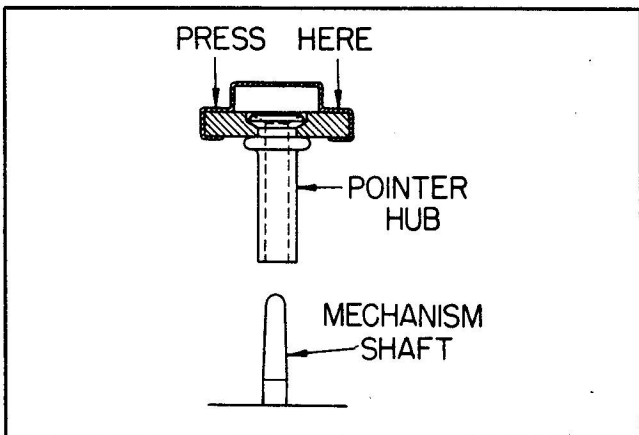

Figure 2-4. Attaching Pointer
**2-65. ASSEMBLY OF POINTER TO INDICATOR.** Fit pointer over shaft of mechanism and press down carefully on both sides of pointer blade. (See figure 2-4).